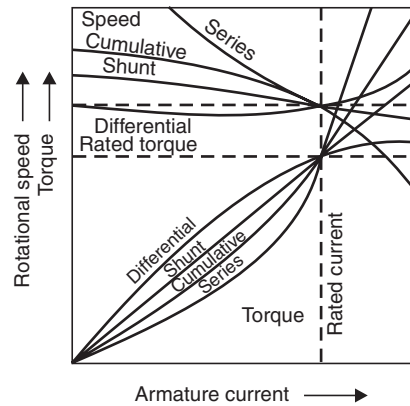

Fig. 74. Speed and torque relations for shunt, series and compound fields. Motors of same rated speed, torque and current.
- Fig. 74 compares shunt, series and compound performance when the three are rated at the horse power (or kilowatts) and rpm (or radians/sec). In this type of plot all the characteristics cross at the design load point.
The following may be deduced from Fig. 74.